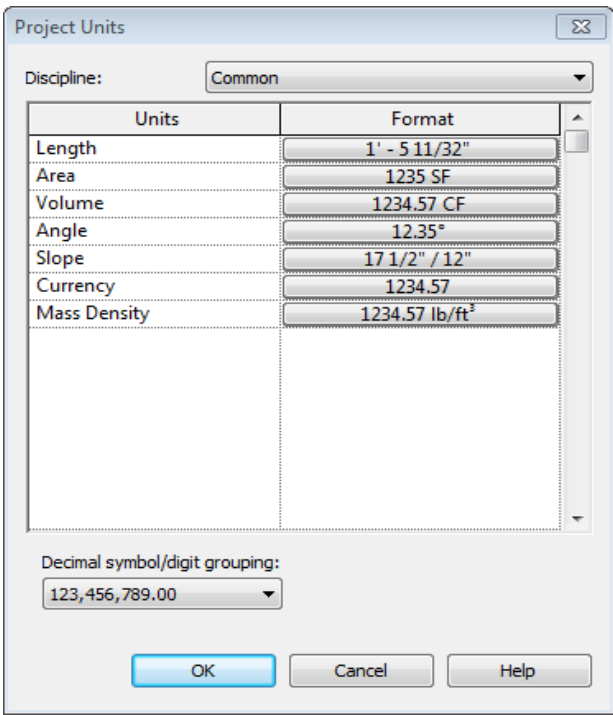

Figure 2-39 The **Project Units** dialog box
1. Choose the **Project Units** tool from the **Settings** panel of the **Manage** tab; the **Project Units** dialog box is displayed, as shown in Figure 2-39.